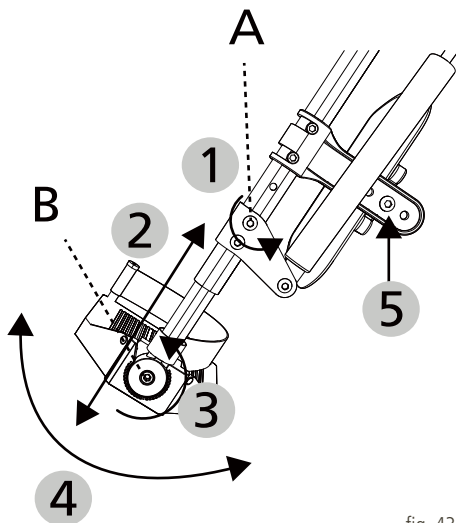
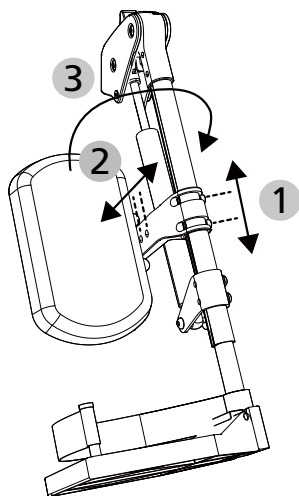

fig. 43
fig. 44
The calf pad have to be installed before using for the first time. Use the enclosed 5 mm Allen screw and nut and install in the third position hole on the calf pad holder (see 5, fig. 43/ fig. 44 s. 36/37).
1. To adjust the length, loosen the Allen screw 4 mm (A, fig. 43) by a few rotations (1, fig. 43), but do not loosen it fully.
2. Then pull/slide the foot plate to the desired length (2, fig. 43). Pay attention to the minimum gap of 40 mm between the foot plate and the ground.
3. To lock it in place, tighten the screw (A, fig. 43) again firmly. Make sure that the screw engages in the interior carriage.
3. Re-insert the foot plate at the desired angle (4, fig. 43).
5. Loosen the 2 Allen screws 5 mm on the holder to adjust the height. Following adjustment, fix the screws back into the hole pattern in 30 mm steps (1, fig. 44).
6. Loosen the Allen screw 5 mm to enable depth adjustment. Following adjustment, fix the screws back into the hole pattern in 20 mm steps (2, fig. 44).
The calf pad can be swivelled outwards with the holder to relieve the calf and give the leg more room (3, fig. 44).